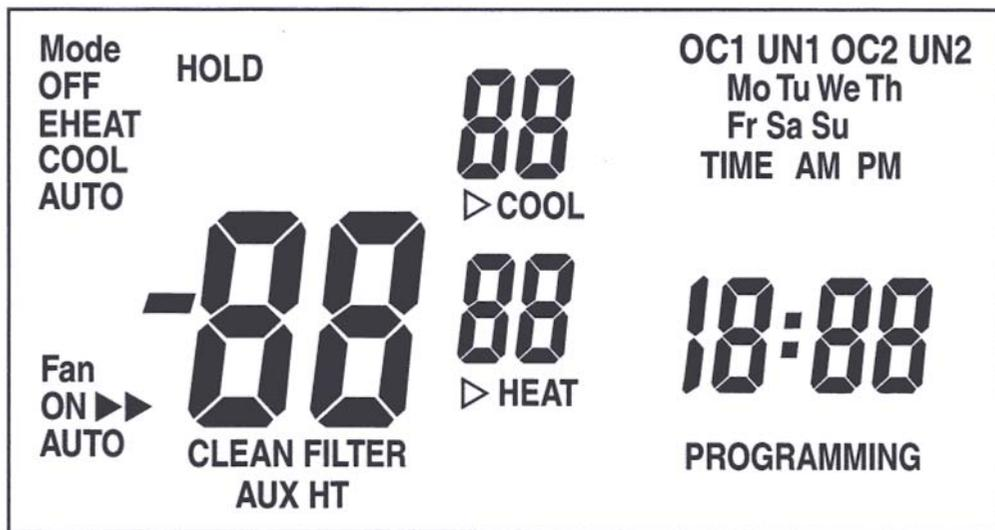

Fig. 1 — Thermostat Liquid Crystal Display
**Thermostat Display** — The thermostat display is located in the top center of the thermostat. See Fig. 1. The following information can be displayed on the screen: